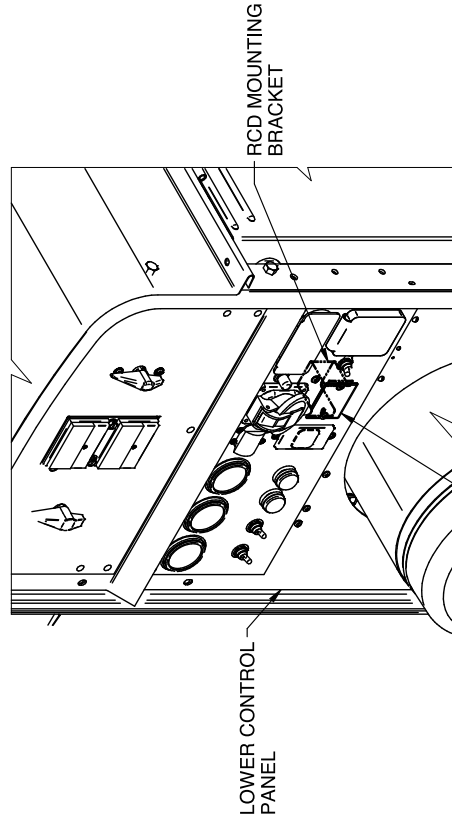

FIGURE 1
3. WHILE HOLDING THE RCD MOUNTING BRACKET REMOVE THE TWO SCREWS SECURING THE COVER PLATE AND RCD MOUNTING BRACKET. SET THE RCD MOUNTING BRACKET AND SCREWS ASIDE AND DISCARD COVER PLATE. (SEE FIGURE 1).